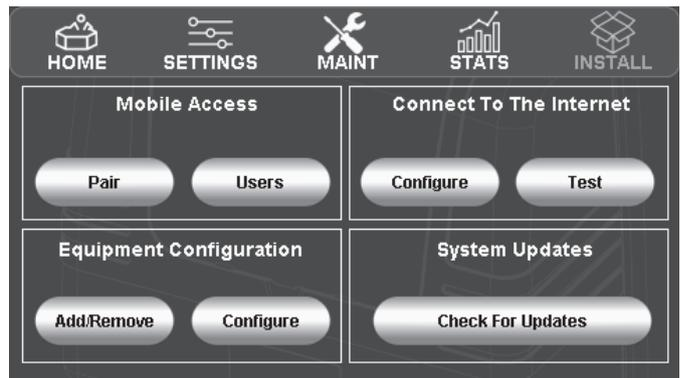

Figure 9. Halo Install Main Screen
2. Press “Configure” in the “Equipment Configuration” section as shown in Figure 9 then select “Chlorinator”.